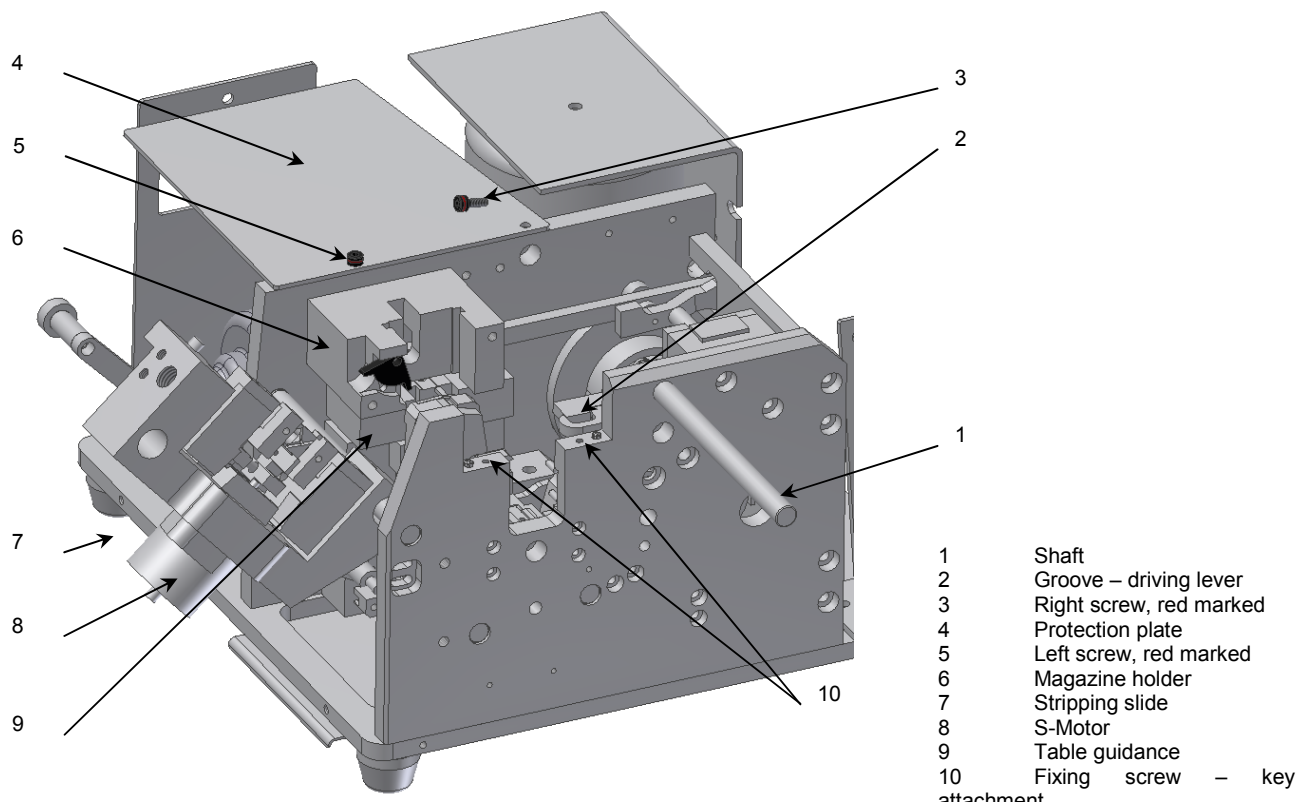
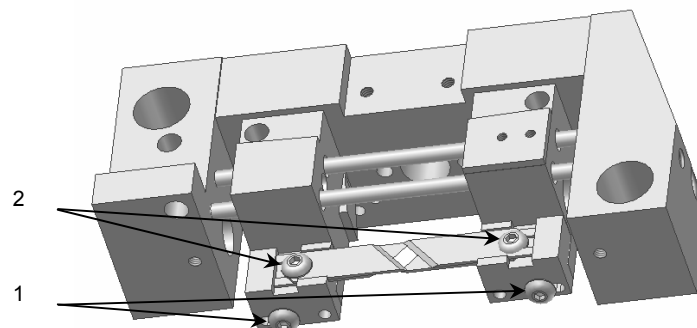

Figure 8: Stripping blades changing position
Figure 9: Stripping slide (backside)
<ul style="list-style-type: none"> <li>• Stripping blades changing position</li> <li>• See Figure 9: Stripping slide (backside)</li> <li>• Remove the fixing screws of the blade fasteners (1) at the stripping unit.</li> <li>• Remove the blade fasteners.</li> <li>• Loosen the fixing screws of the blades (2). Open them for only 1 – 2 rotations but do not unscrew them completely.</li> <li>• Take out the blades.</li> <li>• Put the new blades in correct position up to the limit stop and screw them on.</li> <li>• Mount the blade fasteners and screw them on.</li> </ul>	<ul style="list-style-type: none"> <li>• Stripping blades changing position</li> <li>• See Figure 8: Striping blades changing position</li> <li>• Remove the left, red marked screw (5) and the protection plate (4).</li> <li>• Unscrew both fixing screws of the table guidance (9) from the back.</li> <li>• Pull the table guidance (9) to the front down of the two guiding pins and take it out to the right below the magazine holder (6).</li> <li>• Remove the flat head screw above the ferrule cutting blade and change the blade.</li> <li>• Take care that the ferrule cutting blade fits in the groove and up to the limit stop before bolting the flat head screw.</li> <li>• Put the table guidance from the right side below the magazine holder onto the lower slide. Push it careful on the two guiding pins and screw it on from the back.</li> <li>• Fix the protection plate (4) with the red marked screw (5).</li> </ul>